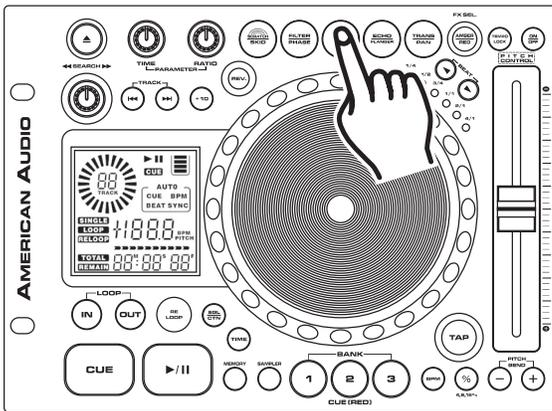

Figure 52
HOLD BUTTON: Use the **HOLD BUTTON (6)** to lock your customized parameters. If the hold button is not activated any changes to your parameters will be momentary. To activate the hold function press the **HOLD BUTTON (6)** as in figure 52. When the hold function becomes activated, the hold button will begin to glow blue.